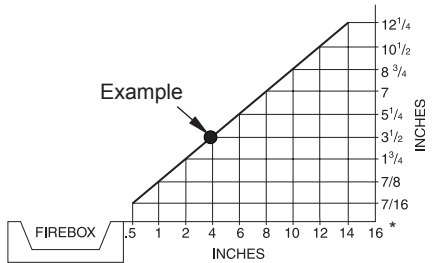

Figure 4 - Minimum Clearance for Combustible to Wall
- where curtains, furniture, clothing or other flammable objects are less than 36" from the front and 42" from top heater, For side clearances see *Figure 4 Page 10*
A. Clearances from the side of the fireplace cabinet to any combustible material and wall should follow diagram in **Figure 4**.
Example: The face of a mantel, bookshelf, etc. is made of combustible material and protrudes 3-1/2" from the wall. This combustible material must be 4" from the side of the fireplace cabinet (see **Figure 4**).